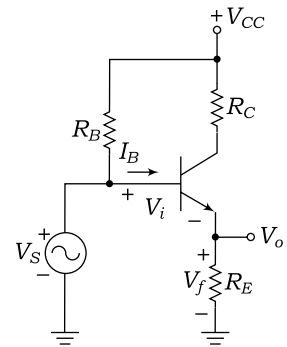

Fig. 4.48
7. Figure 4.48 shows the feedback amplifier circuit. What is the type of feedback used in this circuit?